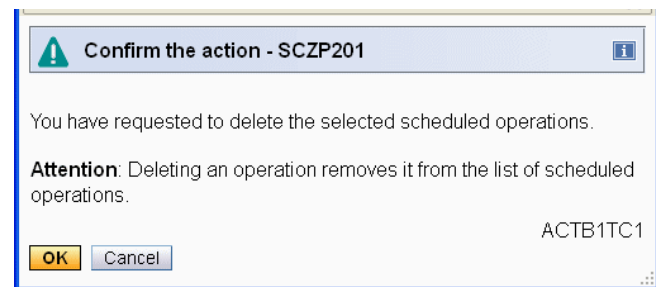

Figure 1-70 Delete scheduled operation confirmation
- On the “Confirm the action” panel click **OK** (Figure 1-70).